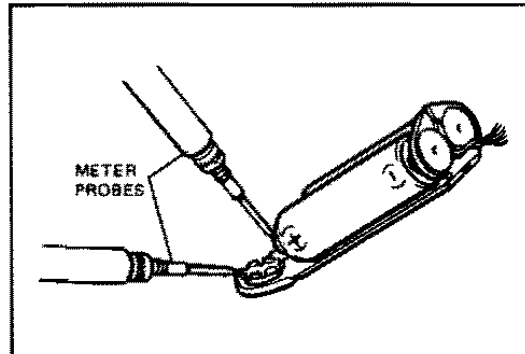

FIG. 4-13 MEASURING TIMER BATTERY DRAIN
- c. Disconnect the positive end of the timer battery from the terminal. Place one probe of a microampere meter on the positive terminal of the battery and the other probe on the terminal receptacle of the cradle as shown in Figure 4-13.